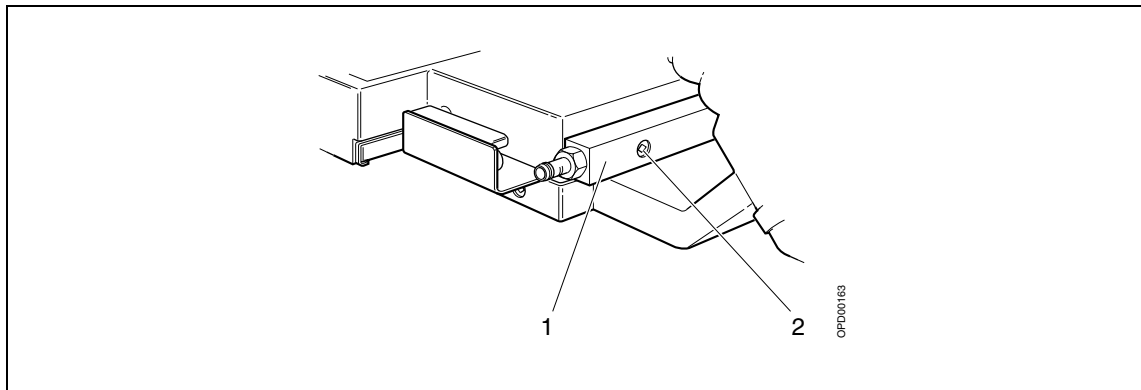

Fig. 5 Object table arm after installation
2. Install the holder (1/Fig. 5) with the pull relief device, using included Allen screws (2/Fig. 5).